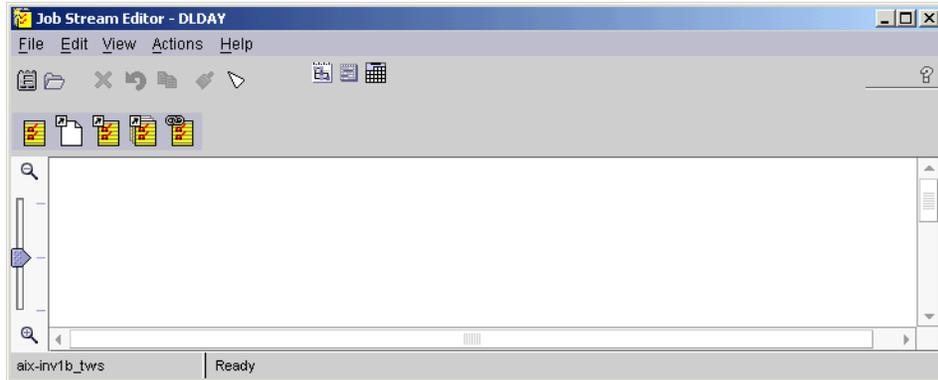

Figure D-6 Job Stream Editor
4. Click **OK**. The Job Stream Editor window is displayed, as shown in Figure D-6 on page 476.